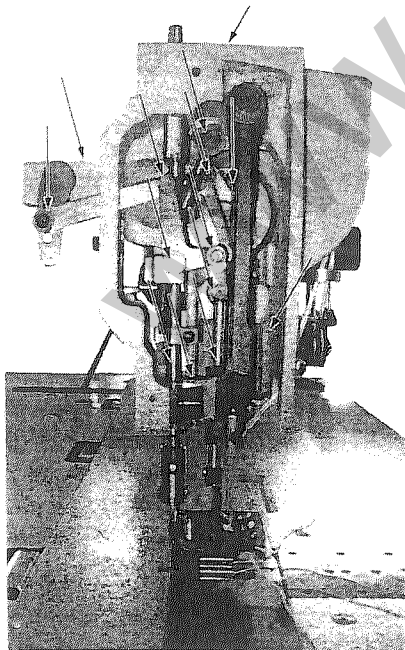

Fig.2
## OILING ( Figs. 2、 3、 4 & 5 )
1. Oil should be applied at each of the place designated by arrows in Fig. 2, 3, 4&5.